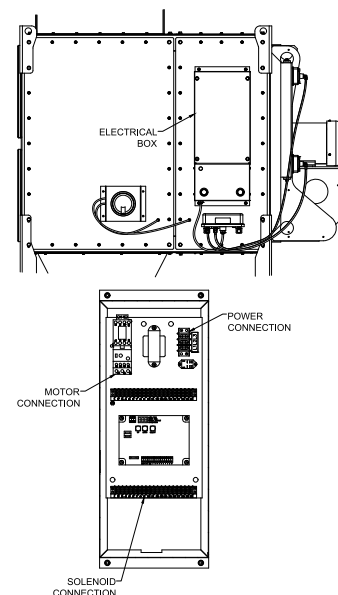

FIGURE 4
2. When the enclosure is mounted, make connection from your supply power to terminals L1, L2, and L3. Wire size should be rated for motor horsepower load needed for your application (see Figure 4).